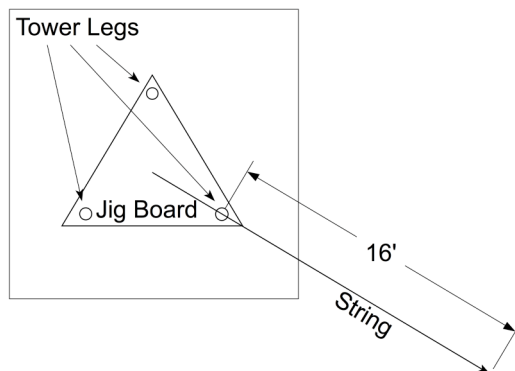

Figure 16. Diagram of a jig used to mark guy wire anchor positions for a 10-meter tower.
10. Mark the positions of the guy wire anchors, using a jig that fits on the three tower-base leg mounts (see Figure 16 below). The jig should have a string attached to the center of the jig that extends 16 feet past the tower leg. Pull the string taut and position it so that it passes directly over the center of the tower leg to which each guy wire will be attached to mark each of the three anchor positions. Install the guy wire anchors into the ground at the marked positions.